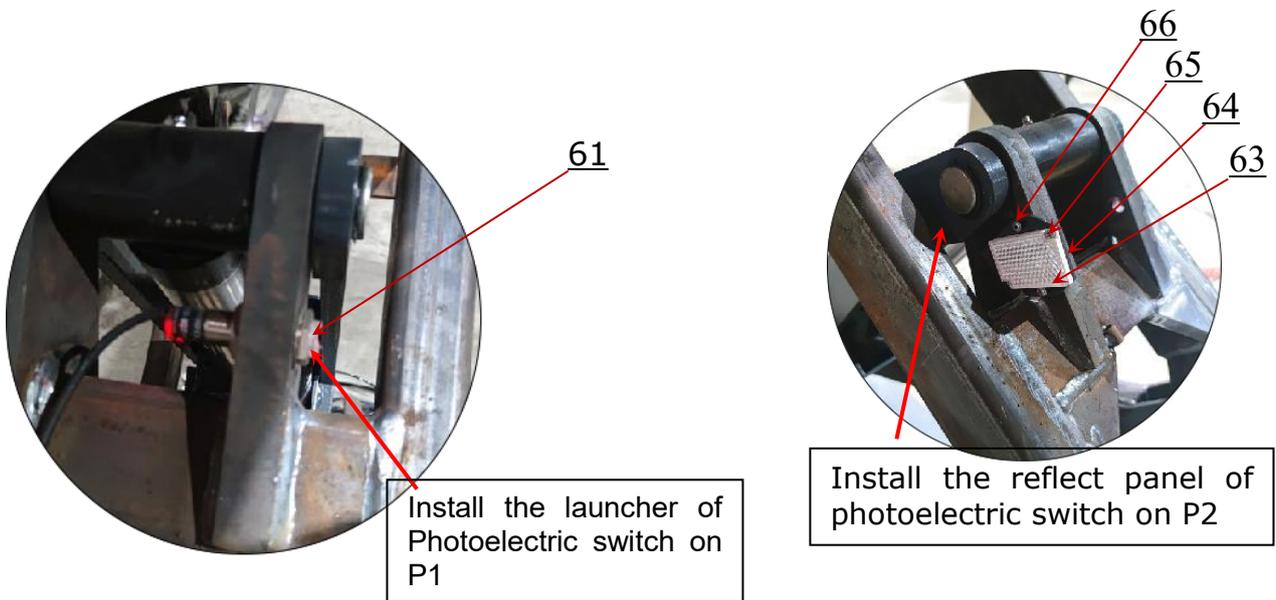

Fig. 24
E. Install of photoelectric switch. (Fig.24)